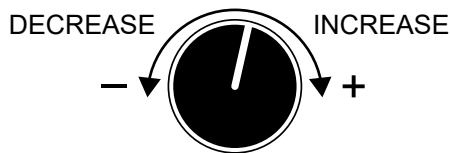

Figure 51. Voltage Regulator
7. If the voltage is not within the specified tolerance, use the **voltage regulator** (Figure 51) to increase or decrease the desired voltage.